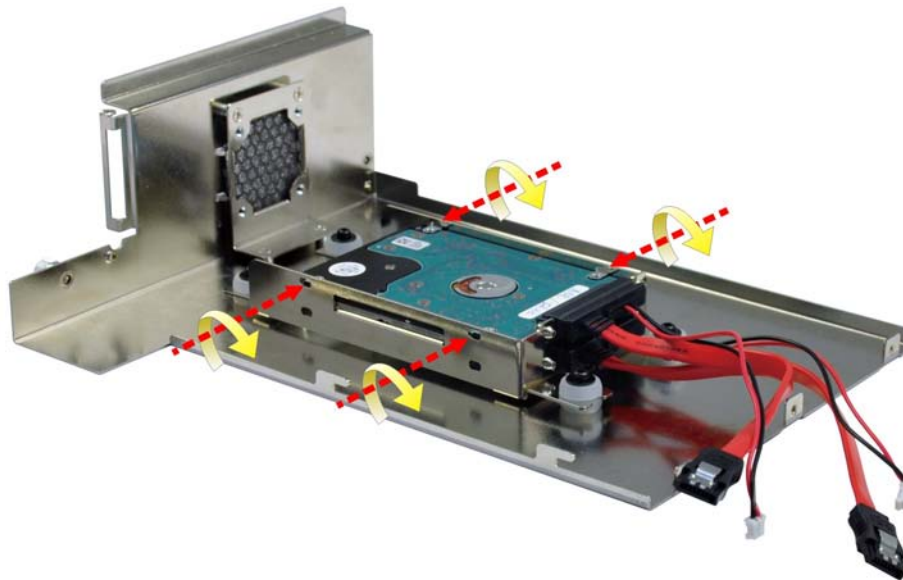

Figure 3-6: HDD Retention Screws
Step 4: Secure the HDD with the HDD bracket by four retention screws (**Figure 3-6**).